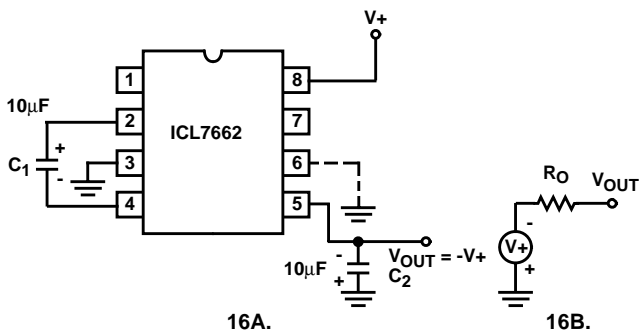

FIGURE 16. SIMPLE NEGATIVE CONVERTER AND ITS OUTPUT EQUIVALENT
The majority of applications will undoubtedly utilize the ICL7662 for generation of negative supply voltages. Figure 16 shows typical connections to provide a negative supply where a positive supply of +4.5V to 20.0V is available. Keep in mind that pin 6 (LV) is tied to the supply negative (GND) for supply voltages below 10V.
ESR also affects the ripple voltage seen at the output. The total ripple is determined by 2V, A and B, as shown in Figure 16. Segment A is the voltage drop across the ESR of C₂ at the instant it goes from being charged by C₁ (current flowing into C₂) to being discharged through the load (current flowing out of C₂). The magnitude of this current change is 2 x I_{OUT}, hence the total drop is 2 x I_{OUT} x ESR_{C₂}V. Segment B is the voltage change across C₂ during time t₂, the half of the cycle when C₂ supplies current the load. The drop at B is I_{OUT} x t₂/C₂V. The peak-to-peak ripple voltage is the sum of these voltage drops:
Figure 23 combines the functions shown in Figure 16 and Figure 22 to provide negative voltage conversion and positive voltage doubling simultaneously. This approach would be, for example, suitable for generating +9V and -5V from an existing +5V supply. In this instance capacitors C₁ and C₃ perform the pump and reservoir functions respectively for the generation of the negative voltage, while capacitors C₂ and C₄ are pump and reservoir respectively for the doubled positive voltage. There is a penalty in this configuration which combines both functions, however, in that the source impedances of the generated supplies will be somewhat higher due to the finite impedance of the common charge pump driver at pin 2 of the device.